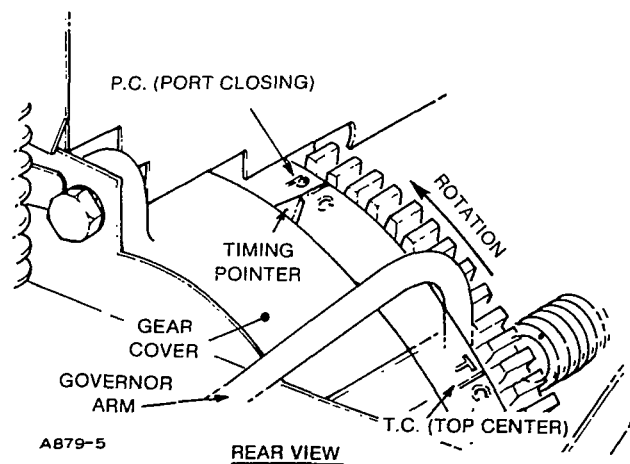

FIGURE 27. PORT CLOSING POSITION
5. Rotate flywheel clockwise (when facing front of engine [Figure 27] to point where PC mark on flywheel is about 15 degrees (1.25 to 1.50 inch) before timing pointer on gear cover (compression stroke of No. 1 cylinder).
Timing is correct if port closing occurs when PC mark on flywheel aligns with timing pointer (Figure 27). If the marks do not line up, timing is either early or late and the timing button must be changed.
1. Turn engine in direction of rotation (clockwise when viewed from the front of engine) until number one cylinder is on a compression stroke and the PC mark on flywheel lines up with timing pointer on gearcase (Figure 27). Rotation clockwise also takes out all gear backlash in that direction.